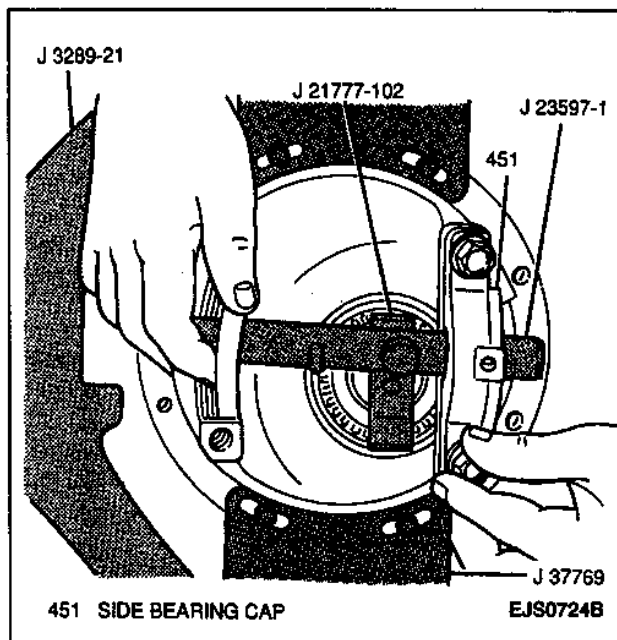

Figure 72—Installing Side Bearing Discs and Arbor
6. Install the J 21777-101 in the side bearing bores with a J 23597-1 through both side bearing discs (Figure 72).